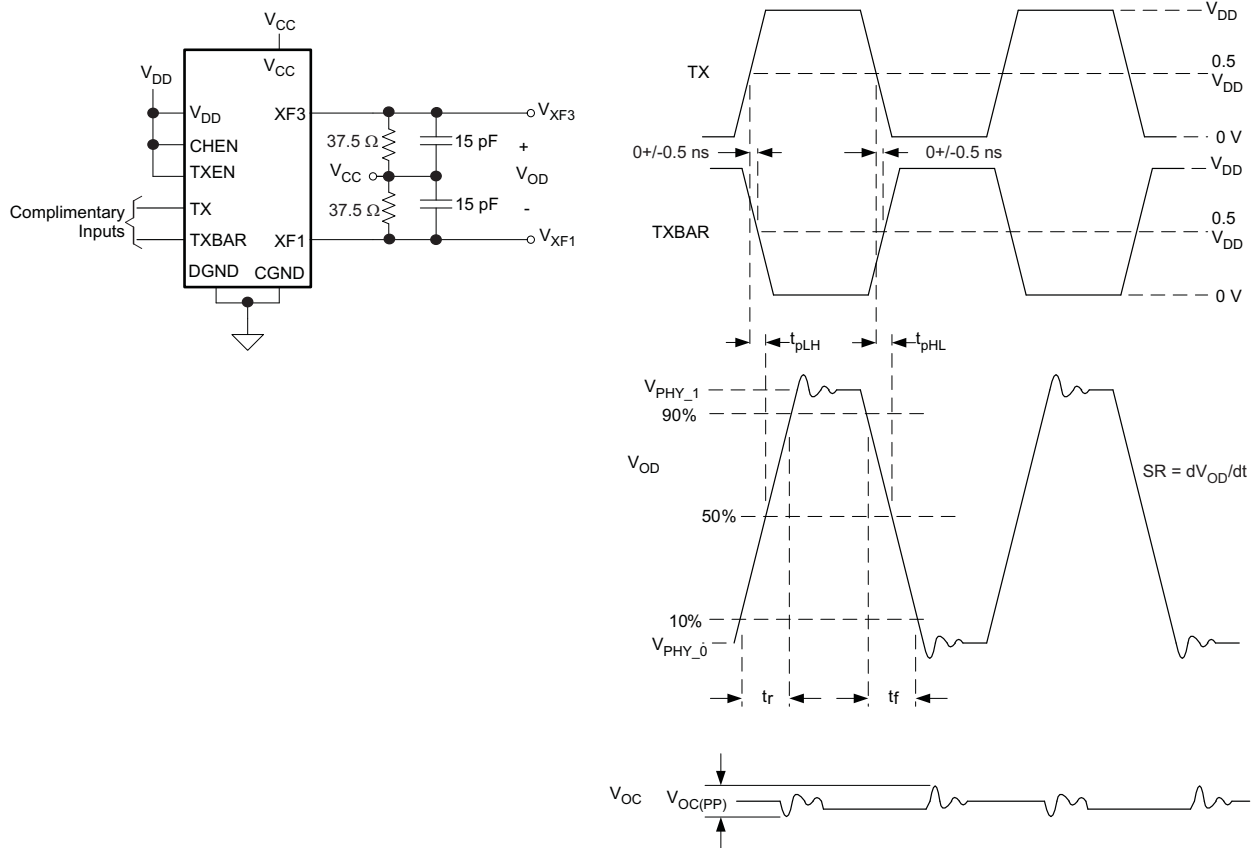

Figure 1. Transmitter Differential Switching Characteristics
| $t_r$                        | Output rise time (10%-to-90%) differential                                 | $R_L = 37.5 \Omega$ , $C_L = 15 \text{ pF}$ , CHEN and TXEN at logic high, See <a href="#">Figure 1</a> (1) |     | 20  | 30  | ns   |                            |     |     |
| SR                           | Output differential slew rate  | See <a href="#">Figure 1</a>   |     |     | 1   | V/ns |                            |     |     |